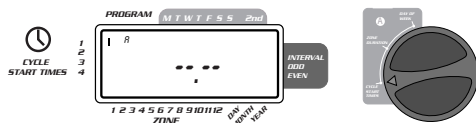

FIGURE 5: LCD Display with Start Time
- The way you set the cycle start time is the same for both programs. Turn the rotary dial to the **CYCLE START TIMES** position in the program that you want to set. The display will show an A or B depending on which program you have selected. The display will show \_\_\_\_ : \_\_\_\_ and a blinking cursor in **CYCLE START 1** location [See Figure 5].